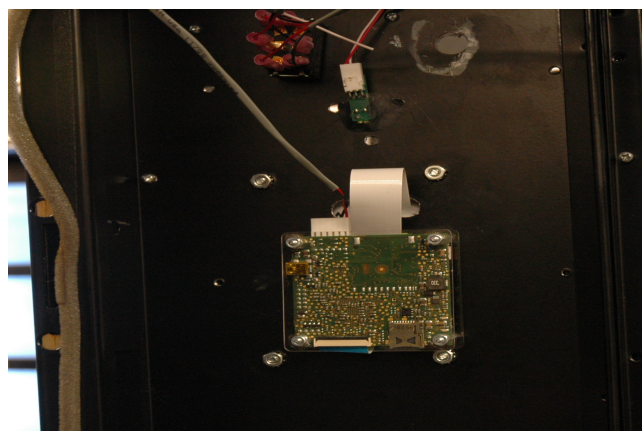

Figure 2
- 3) Attach Mind Driver Board to back of door, centered between mounting holes, as shown in Figure 2. Simply peel backing off of Velcro strips on back of board and press onto machine. Feed the ribbon cable through the opening created in the door.